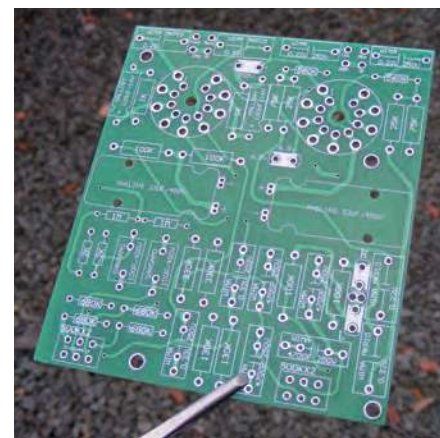
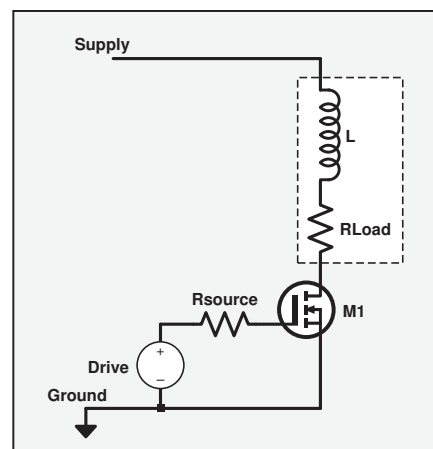
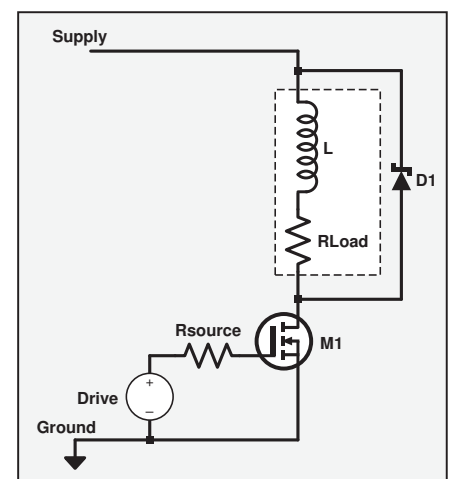
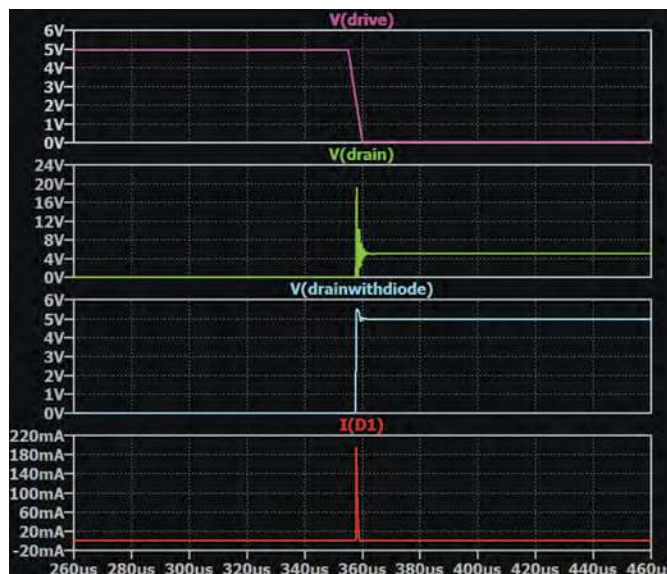

Fig.11. You can buy cheap valve-based Baxandall PCBs on eBay.
Fig.8. MOSFET switching an inductive load.
Fig.9. Adding a protection diode to the circuit in Fig.8.
Fig.10. Illustrative waveforms in for the circuits in Fig.8 and Fig.9.
Fig.10. A valve Baxandall circuit, notice the centre-tapped pot, which produces the 'passive-style' pivot point. The impedances are also much higher than are typical today.
World, May 1957). The circuit is shown in Fig.10. The specified centre-tapped pot is hard to obtain, but can be emulated to a degree by tying two 680kΩ resistors from each end of an ordinary linear 500kΩ pot to ground. The inverting feedback principle is the same, with the path going from the anode of the valve back to the grid, which is the virtual earth. This reduces the input impedance with the valve just as with an inverting op amp circuit. For this reason it is necessary to feed all Baxandall tone controls from a buffer amp or low-impedance source. (Vintage Hi-Fi fans will be pleased to know that PCBs for this circuit are available on eBay – see Fig.11.)
Fig.14. Leak Delta 70 tone control. This gives good Hi-Fi performance. The Quilter bootstrap improvement is shown in red (R7a/R7b replace R7). Note the extra capacitor (C5) to improve the treble characteristic, emulating the centre tap pot in Fig.10.
voltage which can occur when switching inductive loads, such as relays, solenoids and motors. A basic scenario is illustrated in Fig.8, in which the load is primarily an inductor (L) but which realistically has some resistance too (R_{Load}). When current in an inductive load is switched off, the magnetic field, which had been established by the supplied current, collapses, inducing a voltage known as the 'back EMF', or 'inductive kick'. This may result in voltages large enough to damage or destroy the MOSFET. The more rapid the change in current as the inductor is switched off, and the larger the inductance, the greater the back EMF generated.
The usual method of preventing the back EMF from causing problems is to place a protection diode across the inductor, as shown in Fig.9 (D1). This diode is reverse biased when the power-switching device is on, but is forward biased by the back EMF; so the diode dissipates the power or feeds it back to the power supply. The protection diode must have sufficient switching speed and power handling to cope with the energy from the back EMF.
Fig.10 shows some LTSpice simulated waveforms from circuits like those in Fig.8 and Fig.9. The circuits were simulated at the same time and driven from the same pulse voltage source to facilitate comparisons. The specific components and values are
In the second waveform, we see the back EMF, the voltage spike produced by the inductor when it is switched off by the MOSFET (this is the waveform for the circuit in Fig.8). In this case it is around 20V (four times the supply voltage), but can easily be much larger in real applications. The simulation was set up to keep the spike reasonably small so that the final drain voltage could easily be seen on the graph. The back EMF appears as a positive voltage spike at the drain of the MOSFET. If this voltage is large enough, it will cause breakdown to occur in the transistor and high current will flow, possibly damaging the device.
The third waveform in Fig.10 shows the same circuit, supply and input drive conditions, but with a protection diode in place, as shown in Fig.9. When the back EMF occurs, a small overvoltage of around 1V appears at the drain – the turn on voltage of the diode.
The fourth and final final waveform in Fig.10 shows the diode current, which indicates when it is conducting to suppress the back EMF spike.